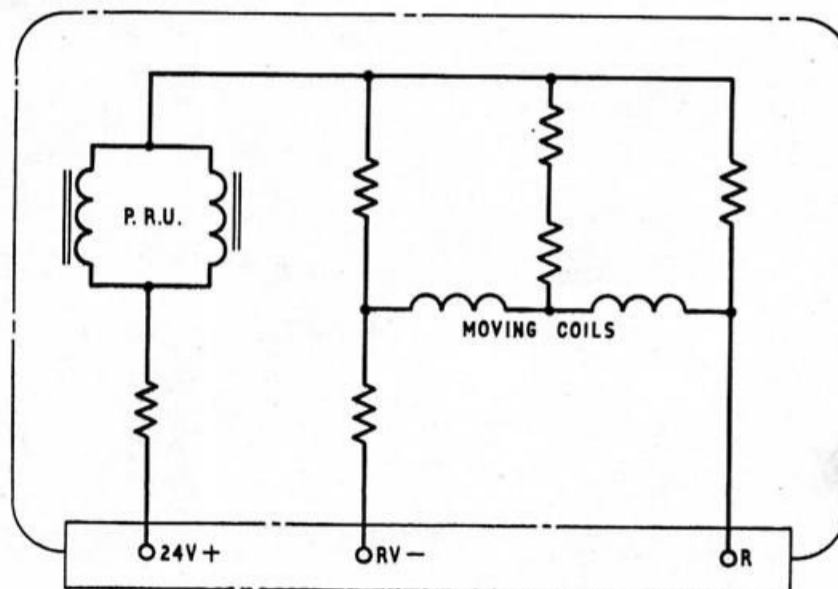

Fig. 2. Circuit diagram
2. The combined indicator and test circuit diagram is shown in fig. 2. Connection to the indicator is made by means of three unified thread (6-32 UNC) terminal screws, 1, 2 and 3 (fitted with captive washers) at the rear of the indicator.